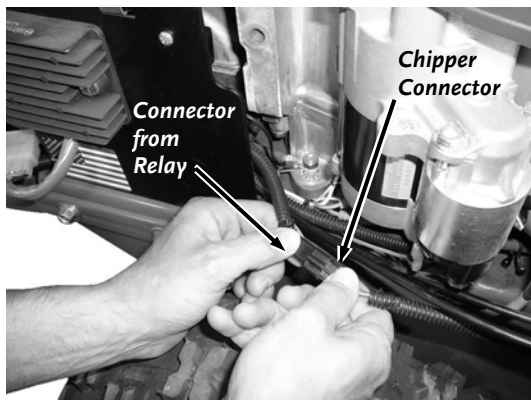

Figure 26
10. Connect the Wire Harness Connector from the Field and Brush Mower to the Connector of the Chipper Attachment (**Figure 26**).